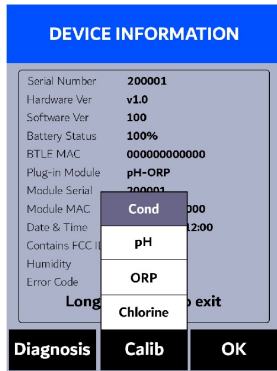

Figure 25.
4. Press **Calib** (**>**) as needed to highlight **Cond** (conductivity) calibration in the selection menu (Figure 25).